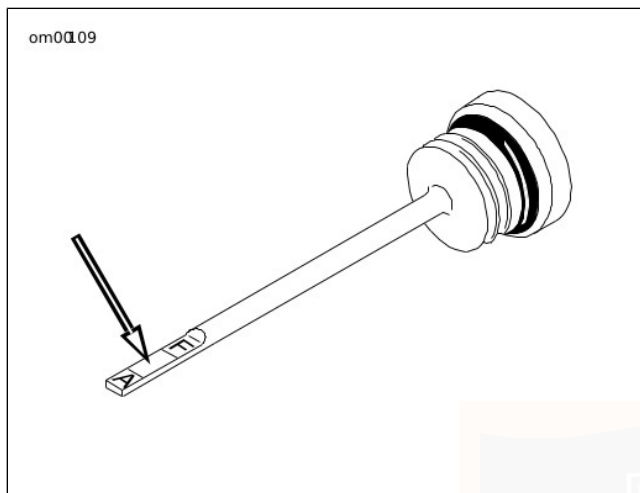

Figure 50. Transmission Filler Plug/Dipstick Lubricant Level
3. See Figure 50. Remove the threaded filler plug/dipstick by turning the plug counterclockwise and pulling outward.